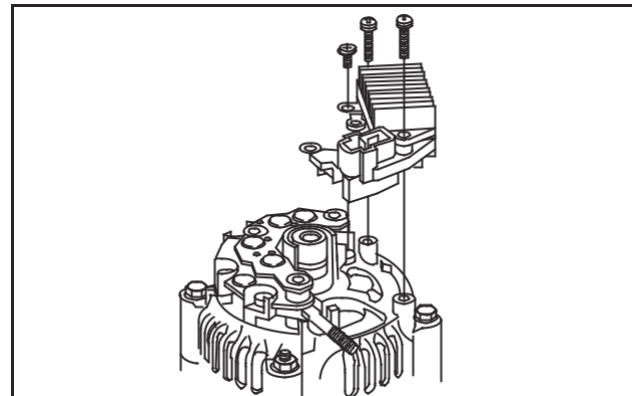

Fig. 25 – Remove Regulator
5. Remove three screws and regulator, Fig. 25.